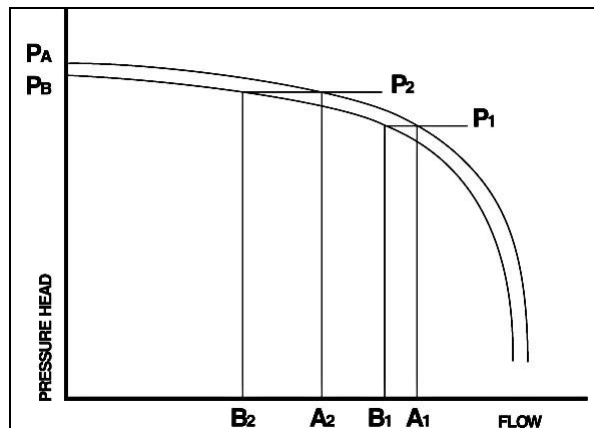
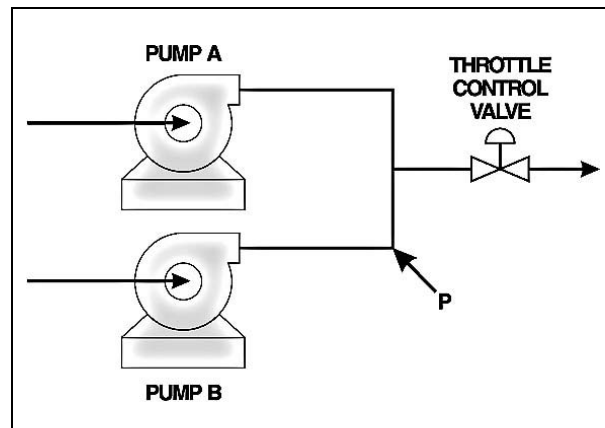

Figure 6
Figure 7
- G. When centrifugal pumps are operated in parallel, their control becomes more critical because one pump may tend to “overpower” the other pump in terms of head at total lower flows. If pumps are connected together at discharge by a simple, unrestricted manifold, the discharge head of one pump is upon another; all pumps see the same discharge head at any given moment in time. This situation is shown on the following curves in Figure 6.
Figure 6 shows that the characteristic curves of two duplicated pumps designated as Pump A and Pump B. Since no two pumps will have exactly the same performance, the curves in Figure 6 show that Pump A produces slightly more head than Pump B. The pumps arranged with a manifold having a common control valve are as shown in Figure 7.